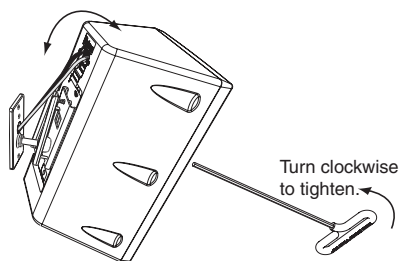

Figure 8 — Adjust speaker and lock in place
3. To adjust the speaker angle insert the allen hex tool into the locking access, loosen the hex cap screw, and adjust to the desired angle (see figure 8). Torque the hex cap screw down clockwise until snug, about 6 to 8 turns, for the speaker to sit securely in the desired position.